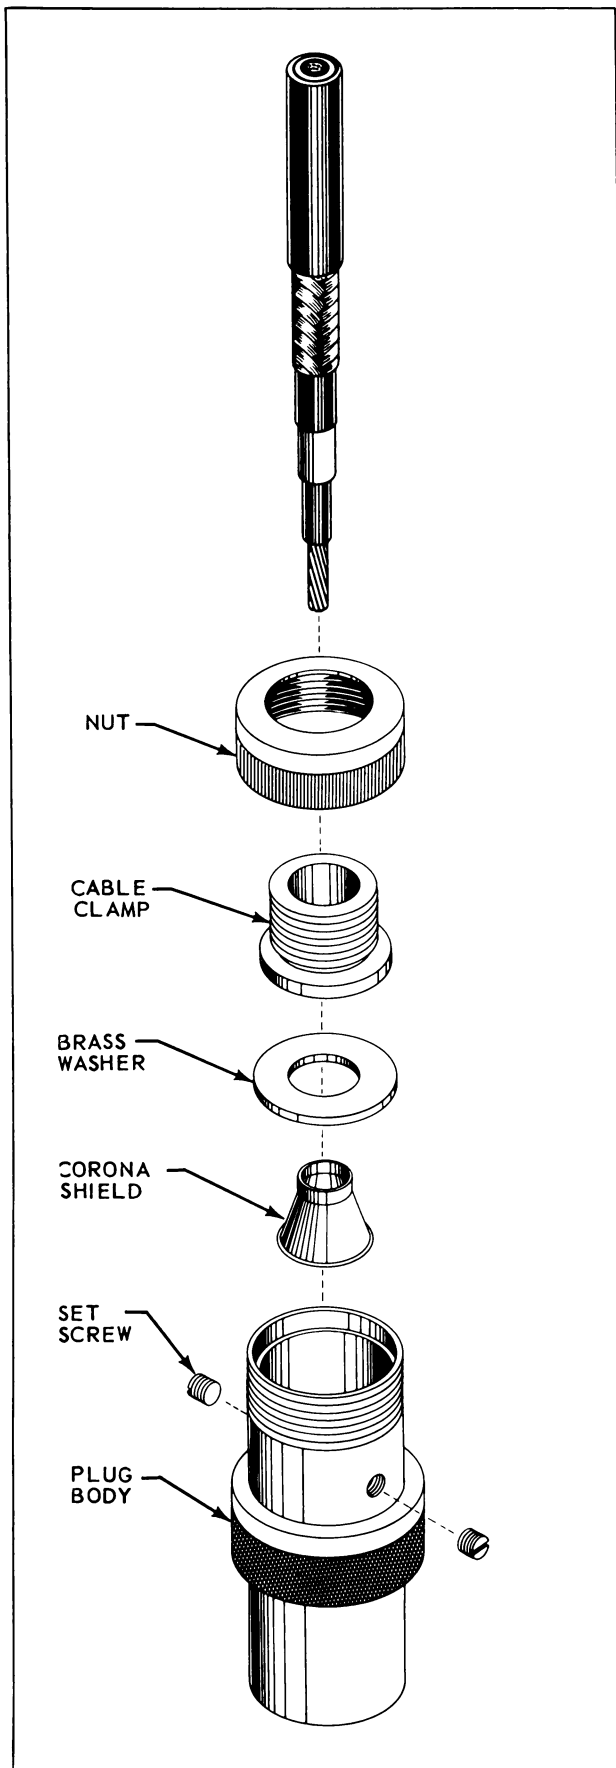

Figure 4-34. Pulse Connector - Ceramic
a. Ceramic Insert Version (See Figure 4-34) - consists of a plug or jack body assembled to coaxial cable with nut, cable clamp, washer and corona shield. Plug UG-174/U is typical of this version.
- a. Disassemble nut, cable clamp, washer and corona shield from plug or jack body. See Figure 4-34.